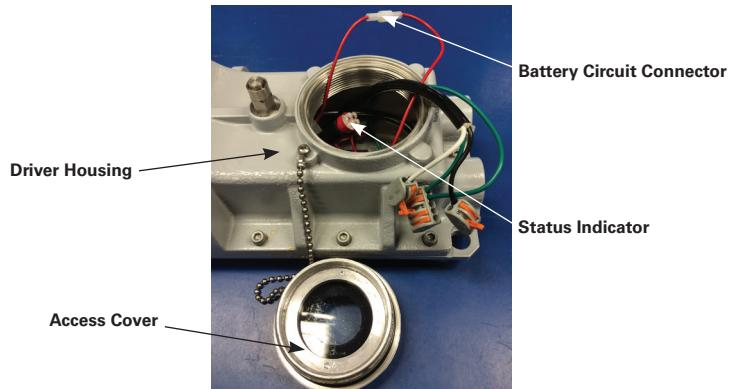

Figure 7
1. Open the threaded wiring access cover (see Figure 7) and allow the cover to hang by the lanyard. All components in the emergency luminaire are pre-wired so only input power needs to be connected in the fixture to the lead wires (or terminals) per the wiring diagram (see Figure 9) using methods that comply with all applicable codes. Terminate the equipment grounding conductor (green) first, the common (white) next, and finally, the line voltage (black) last. Tighten all electrical connections. Note - Standard openings are 3/4" NPT.